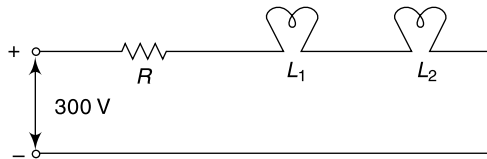

Fig. 4.13 Circuit of Ex. 4.7
4.7 In the circuit shown in Fig. 4.13 find the value of the resistor R so that the lamps L_1 and L_2 operate at rated conditions. The rating of each of the lamps is 12 V, 9 W. If L_2 becomes short circuited find the current through the circuit and the power dissipated in each of the lamps.